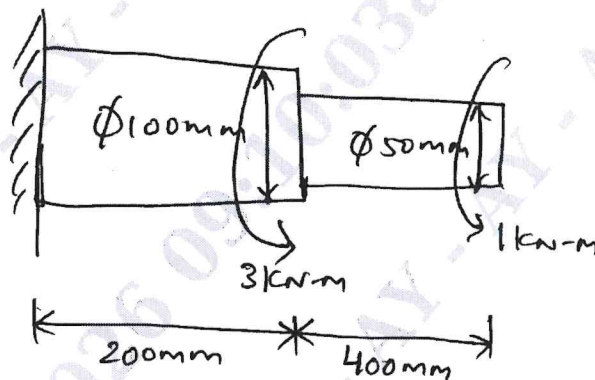

Fig. Q6 (b)
b. A solid stepper bar of circular cross section is subjected to a torque of 1 kN-m at its free end and to a torque of 3 kN-m at its change in cross section as shown in Fig. Q6 (b). Determine the angle of twist and shear stresses in the bar. Take $E = 2 \times 10^5 \text{ N/mm}^2$ and $G = 7 \times 10^4 \text{ N/mm}^2$. (10 Marks)